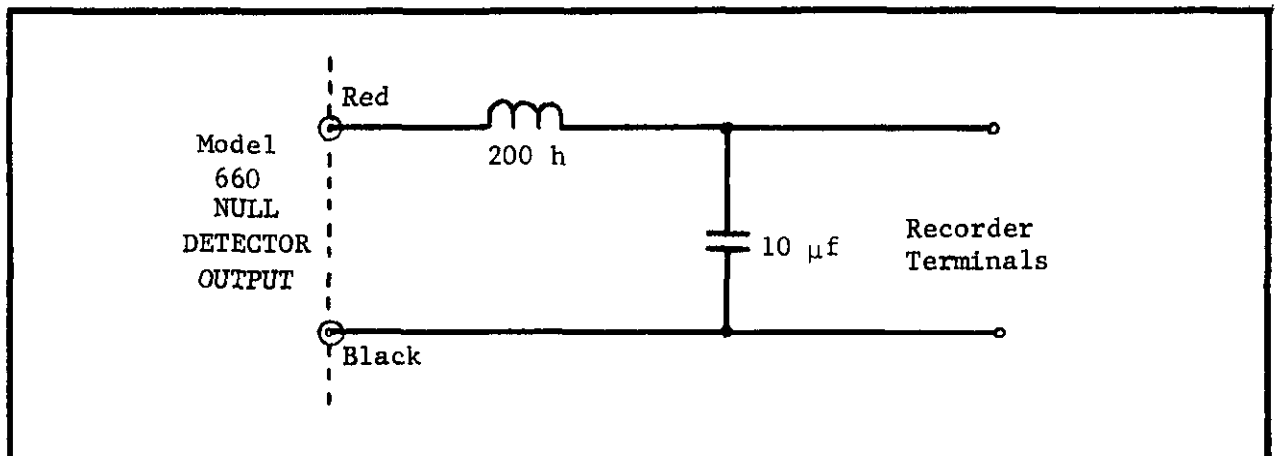

FIGURE 6. Recorder Filter. A filter between the Model 660 and the recorder may be necessary when using the 0.1-millivolt null detector range.
e. If there is substantial recorder jitter on the 0.1-millivolt null range, place a filter between the Model 660 and the recorder. Refer to Figure 6 for this connection. Note the filter must also be insulated from ground.